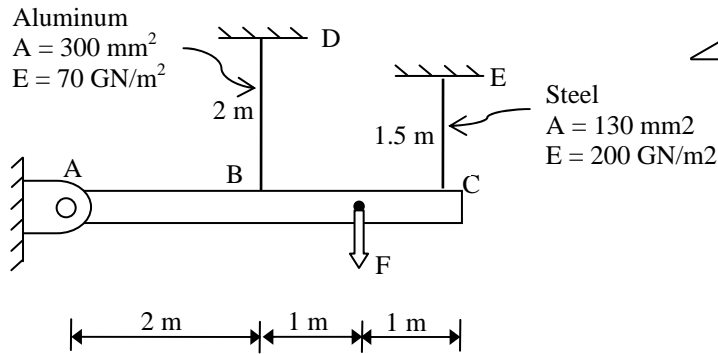

Fig. 4
6. Determine the stresses in each wires supporting the rigid bar shown in Fig. 4 if  $F = 20$  kN.